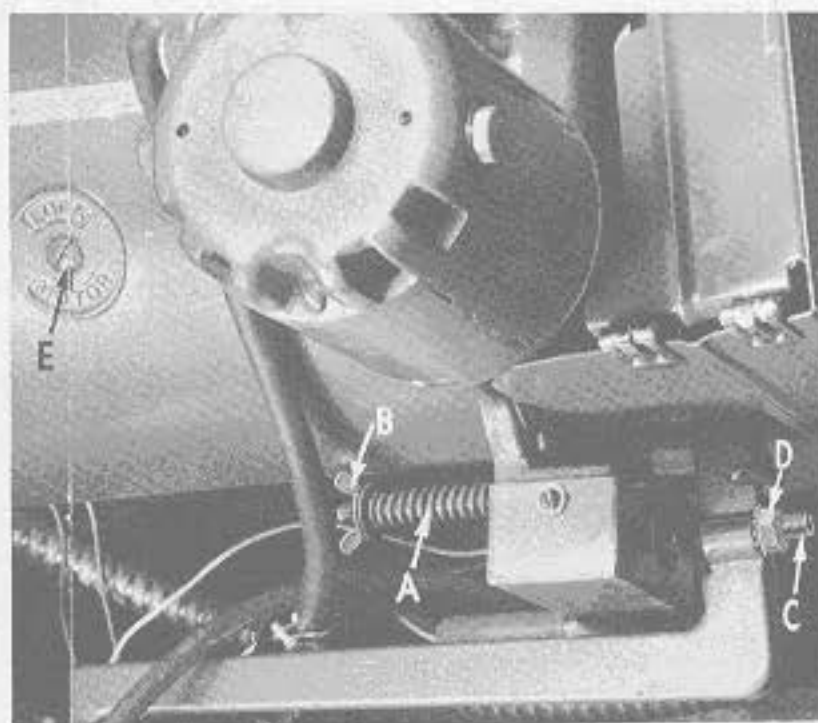

Fig. 34
- (b) Adjust clutch arm spring (A, Fig. 34) so that treadle will return to stop (wing nut washer (B) is to be approximately 1/2 inch (12.70 mm) from end of stud).
- (c) Close treadline switch and loosen clutch lever switch adjusting screw (C), until there is no contact between it and the microswitch. Then tighten screw until needle positions up. Tighten nut (D) to maintain setting.
- (b) Adjust clutch so that clutch arm has approximately 1/16 to 1/8 inch (1.59 to 3.18 mm) travel before clutch is engaged. Loosen lock screw (E, Fig. 34) (where it says "Lock Motor") just enough to unlock it, which is approximately one full turn. Adjust screw located near the top on right end of motor, until clutch is engaged as described above. Tighten lock screw (E).